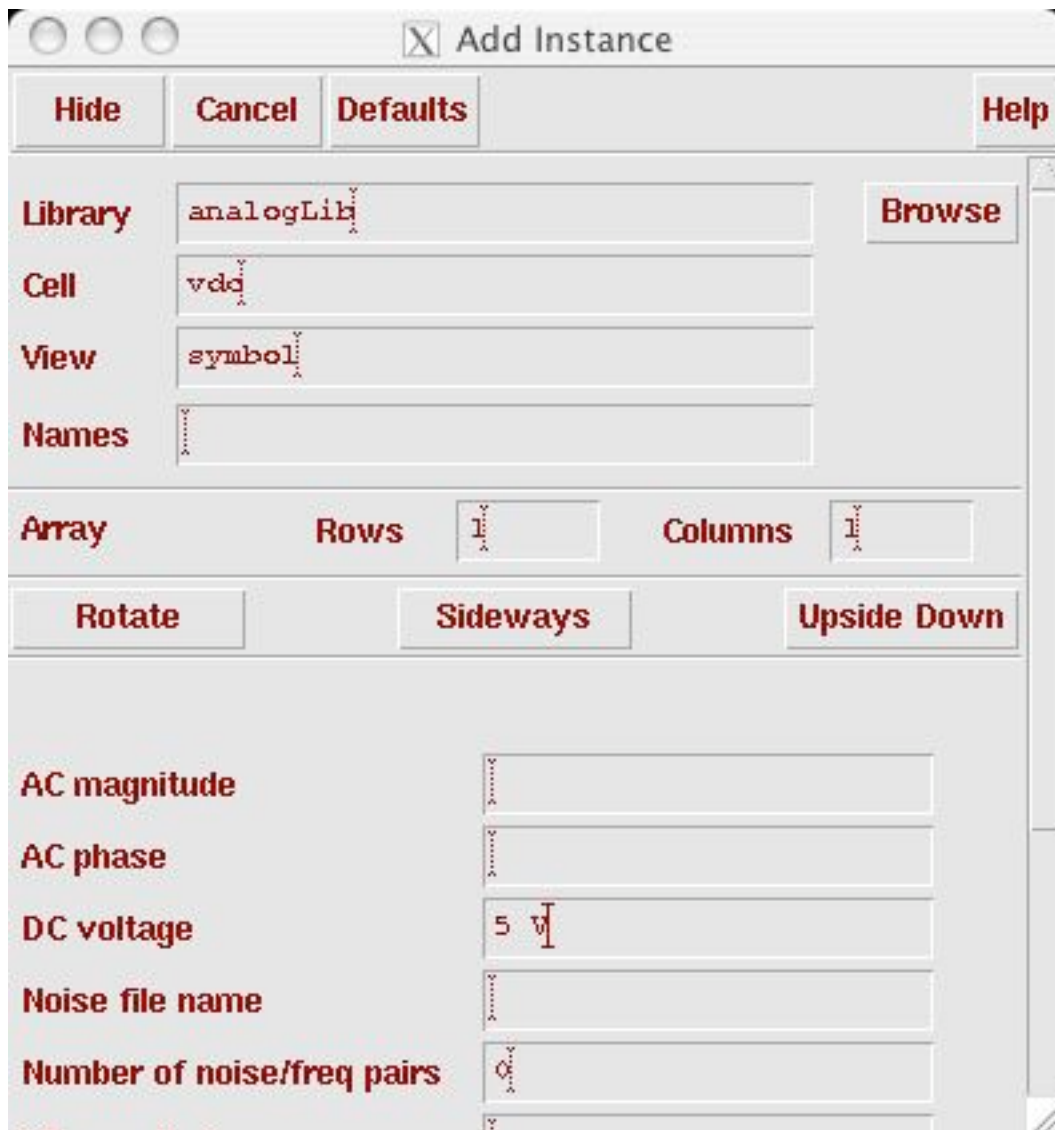

Fig. 15. Properties of *vdc*.
**Step 2:** Add an instance of the new *INV* symbol that we just created as shown in Fig. 15.
**Step 4:** Add a *vdc* instance from the *analogLib* library with properties as shown in Fig. 15.